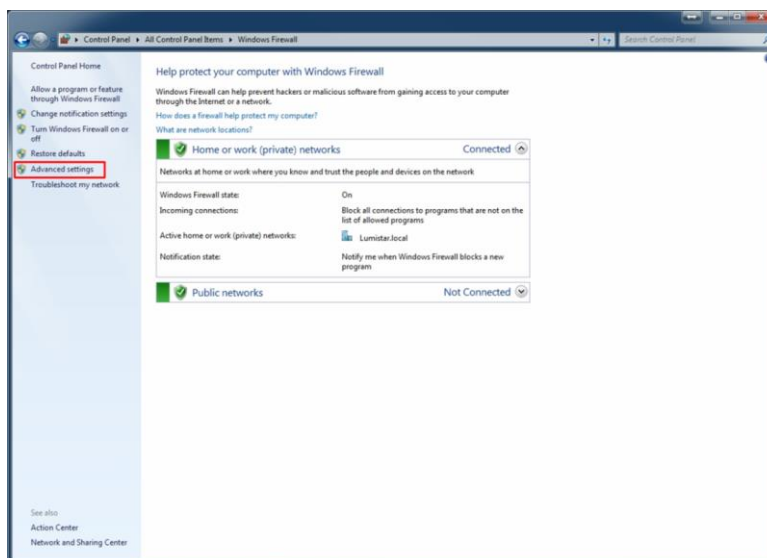

Figure 3-9 Windows Firewall – Advanced Setting Tab
Step 3: From Windows Firewall control, select the "Advanced Settings" option from the left-hand menu. See Figure 3-9.